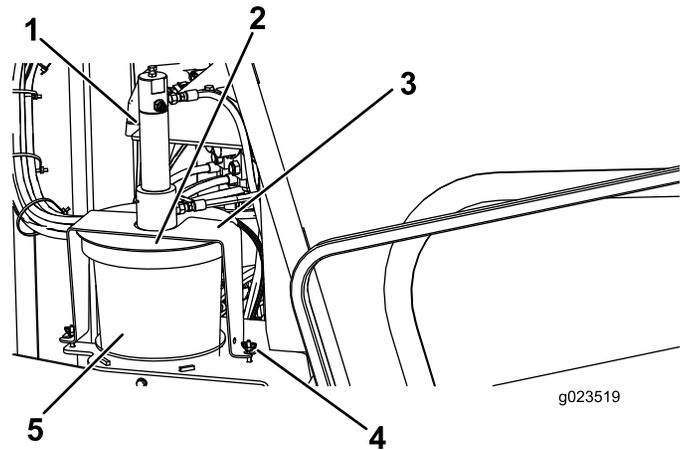

Figure 57
3. Loosen the wing nuts securing the cover straps to the machine (Figure 57).
4. Rotate the cover and pull the cover straps off the retaining bolts (Figure 57).
5. Lift the cover assembly off and out of the empty thread-joint-compound bucket (Figure 57).
7. Place the plunger into the new bucket and lower the cover assembly onto the bucket (Figure 57).
8. Slide the cover straps over the retaining bolts, and rotate the cover to seat the straps on the bolts (Figure 57).